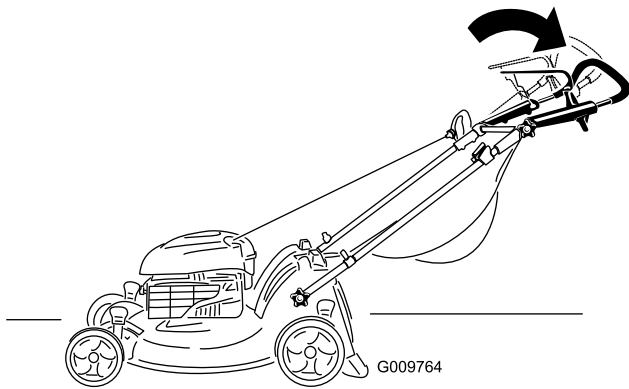

Figure 13
2. Move the upper handle to the desired position (Figure 13).